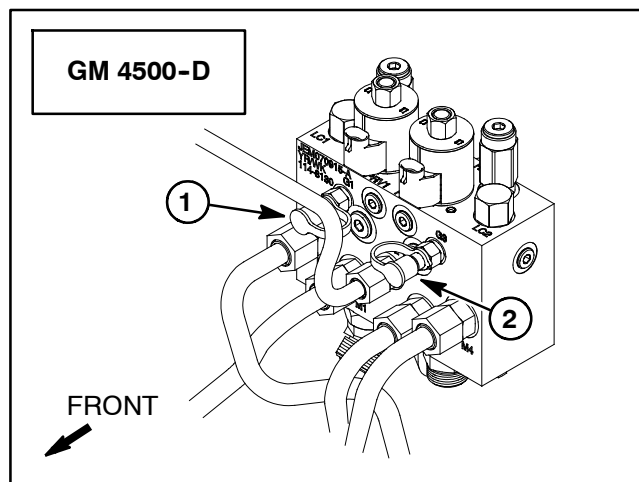

Figure 46
1. Make sure hydraulic oil is at normal operating temperature by operating the machine for approximately ten (10) minutes. Make sure the hydraulic reservoir is full.
4. Install 5000 PSI (350 bar) pressure gauge with hydraulic hose attached to deck control manifold test port for the cutting deck circuit to be tested (Fig. 46 or 47).